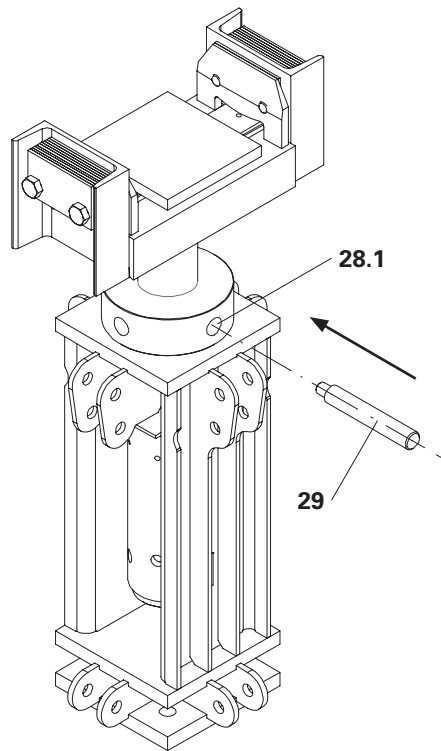

Fig. D1.01
1. Insert the mounting shaft VST (29) into the spindle nut (28.1). (Fig. D1.01)